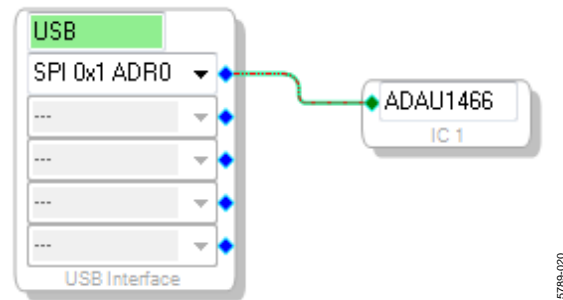

Figure 18. Connecting the USBi to an ADAU1466 in the Hardware Configuration Tab
- c. To connect the **USBi** block (USB interface) to the target integrated circuit (IC) block, the **ADAU1466**, click and drag a line, representing a wire, between the blue pin of the **USBi** and the green pin of the IC (see Figure 18). This connection allows the **USBi** to communicate with the **ADAU1466**. The corresponding dropdown box of the **USBi** automatically fills with the default mode and channel for that IC. In the case of the **ADAU1466**, the default communications mode is **SPI**, the default slave select line is **1**, and the default address is **0**.